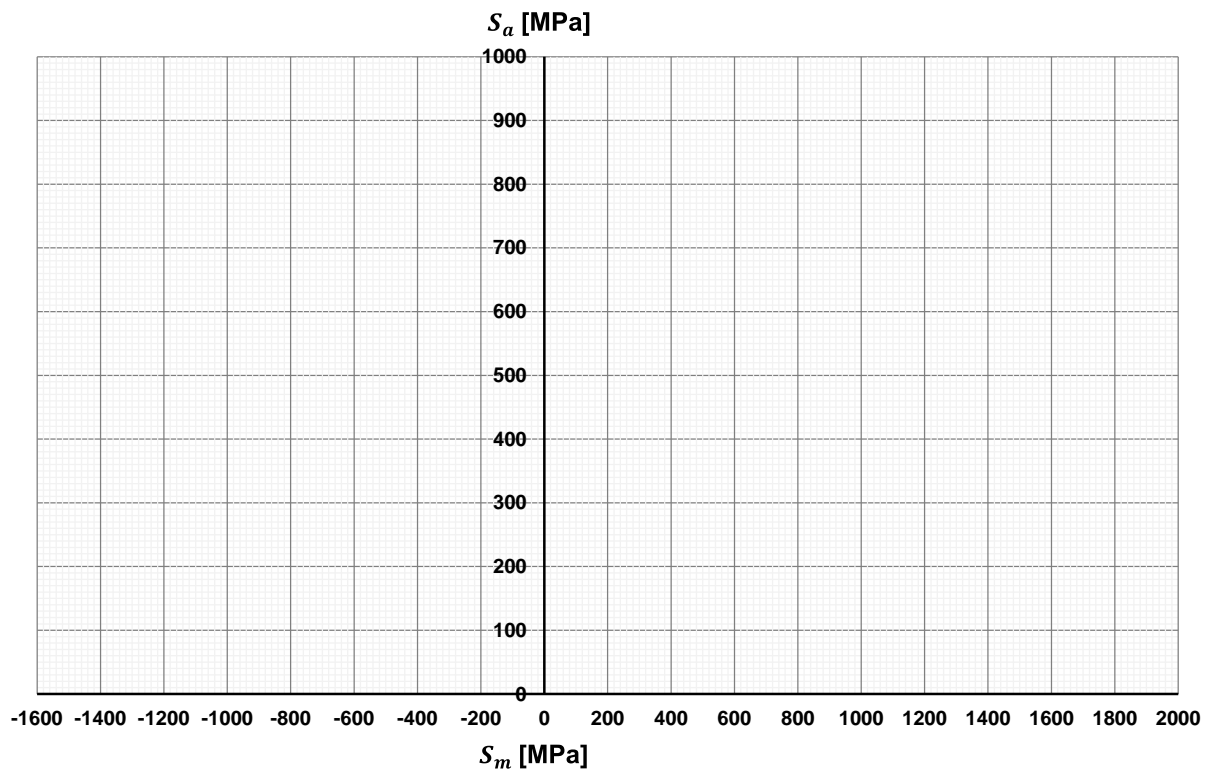

Figure 3 – Haigh diagram.
- (b) What is the maximum value of P_a , if proper compressive residual stresses are present at the notch root? What is the magnitude of the compressive residual stress needed to obtain this maximum alternating stress? (Use **Figure 3** next page to plot the Haigh diagram)